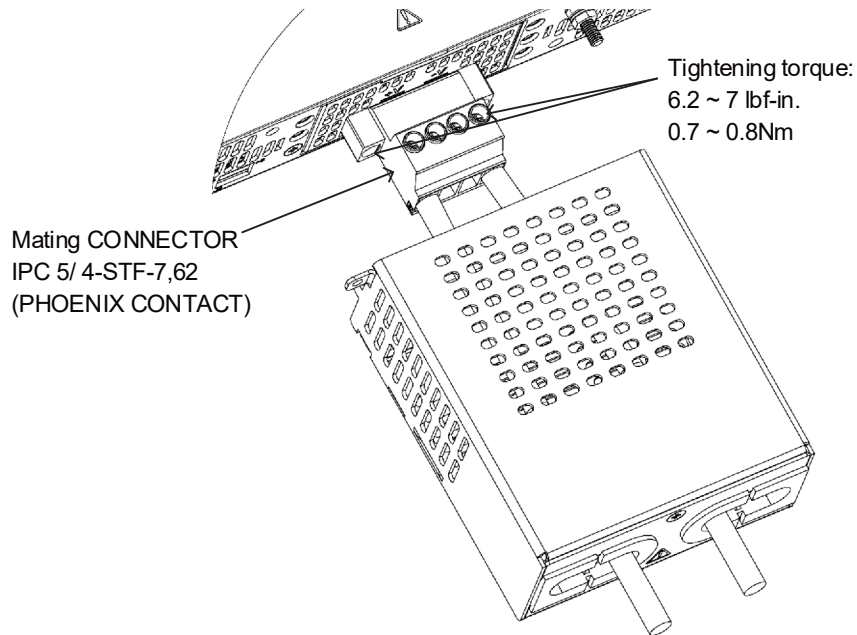

Figure 4-72: Load Wires Connection to The Output Plug
3. Insert the wires through the output protection assembly as shown in Figure 4-72.
4. Insert the stripped wires into the terminals and tighten the terminal screws securely (see Figure 4-72). Tightening torque: 6.2-7 Lbf-inch. (0.7-0.8Nm).
5. Tighten the mating connector to the power supply rear panel (see Figure 4-72). Tightening torque: 6.2-7 Lbf-inch. (0.7-0.8Nm).